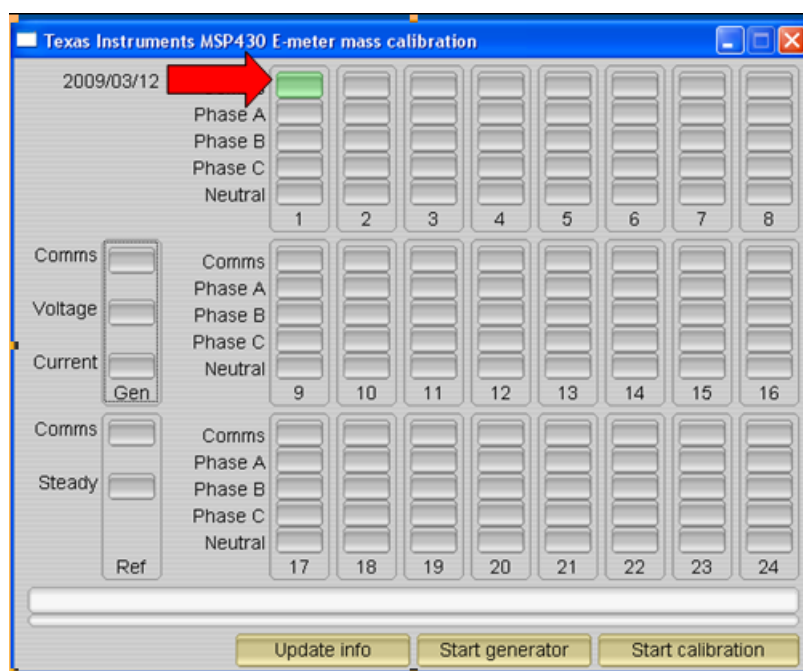

Figure 23. GUI Startup Window
4. Run calibrator.exe in the /Source/GUI folder. If the COM port in calibration-config.xml was changed in the previous step to the com port connected to the EVM, the GUI opens (see Figure 23).